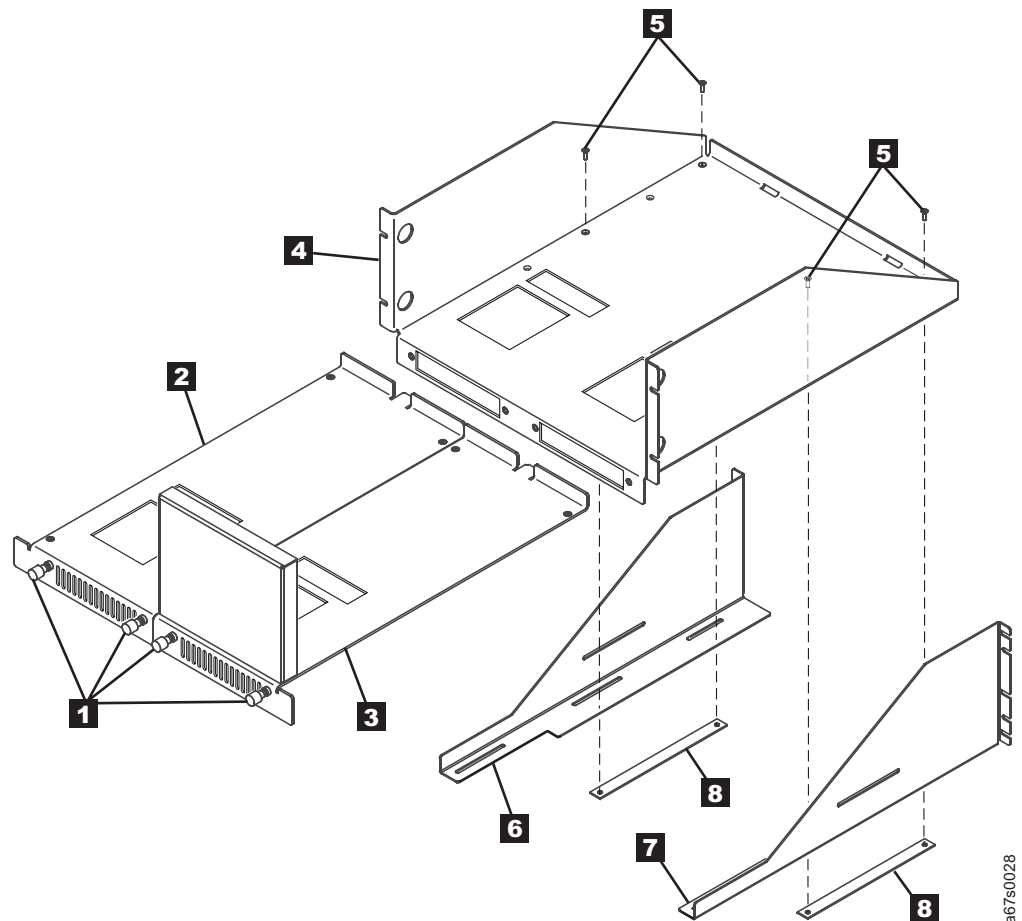

Figure 43. Preparing the rackmount tray for installation into the rack
1. Loosen the four thumbscrews (see **1** in Figure 43) on the left and right sleds (**2** and **3**) by turning them counterclockwise, then remove the sleds from the rackmount tray **4**.